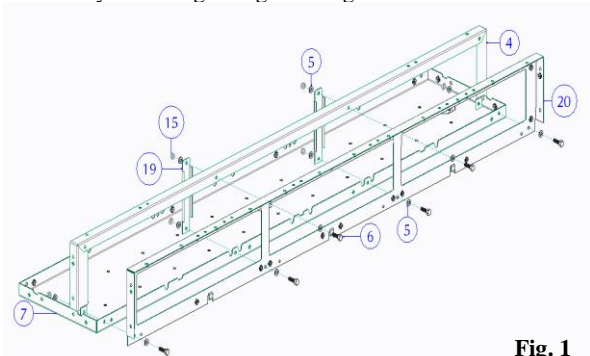

Fig. 1
- Assemble the back plate and side rails to the main panel board by Referring to Fig. 1 & Fig. 6 for details.